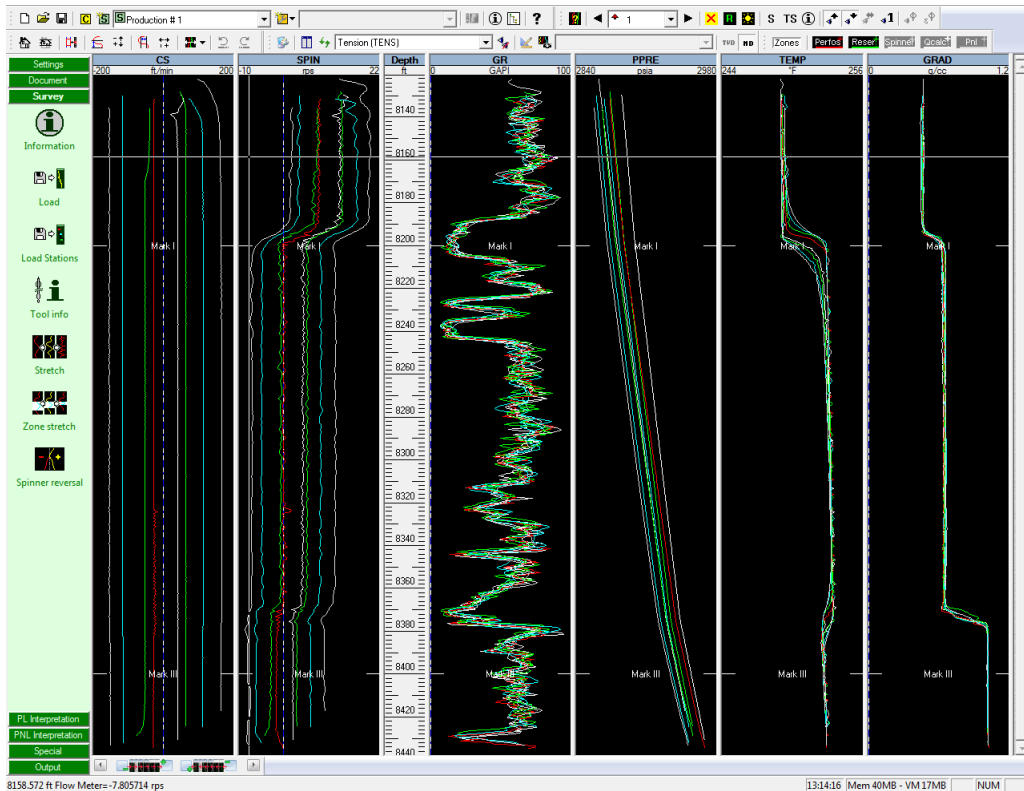

Fig. B01.17 • Views restored
- Setup your screen as on Fig. B01.17.